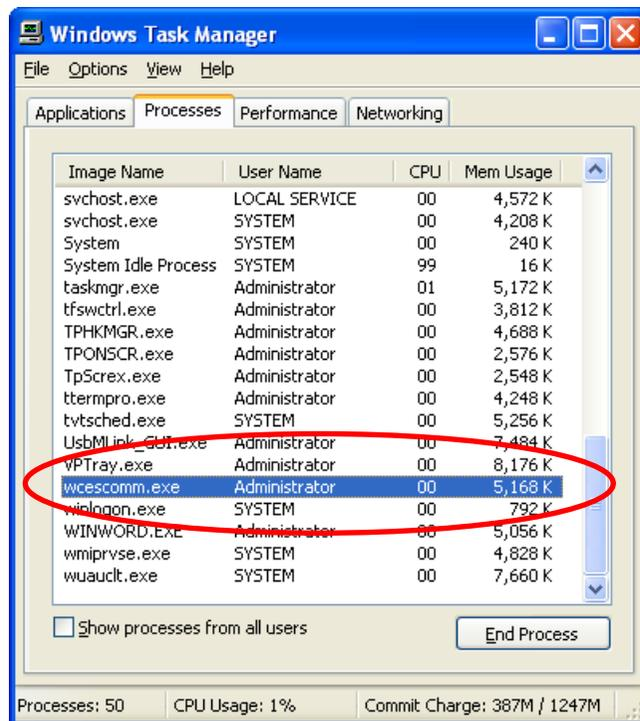

Figure 115:
- Open the Task Manager. Go to processes and end the process named "Wcescomm.exe" (Figure 115).